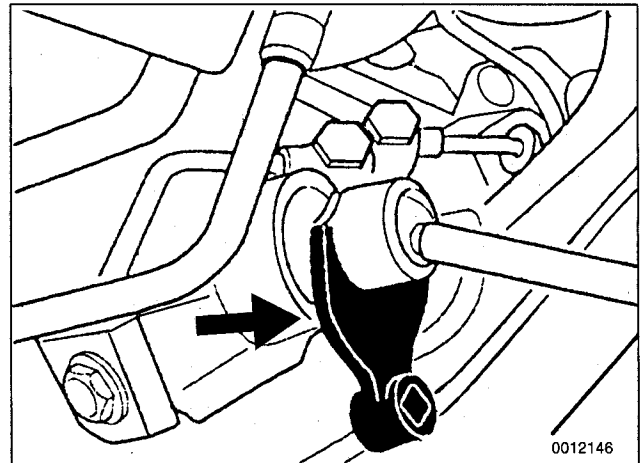

Fig. 10. Special tool (arrow) installed on inner tie rod end.
5. Using special tool, unscrew inner tie rod end from steering rack. See Fig. 10.